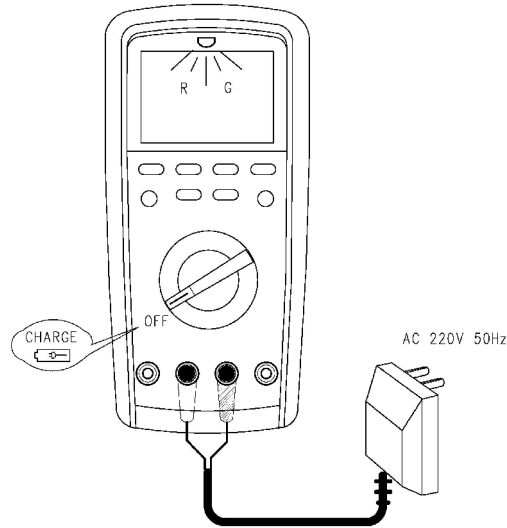

Figure 14
**\* Charging internal lithium battery:** (see Figure 14) (applicable to UT171B/C only) connect the charging adapter provided for accessories in accordance with the figure, to charge the internal lithium battery. In the mode of charging, a red indicator alert will be emitted on top of the instrument, which turns green when the charging voltage reaches the full value, and then the instrument will automatically cut off the charging circuit as prompt for the completion of the charging.